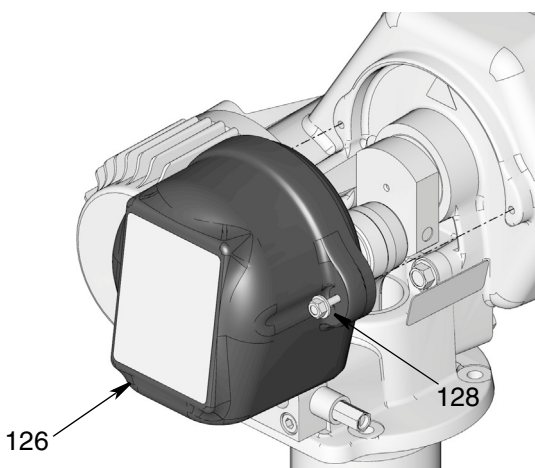

FIG. 50
28. Reinstall cover (126) using bolts (128). Use a wrench to tighten bolts securely (FIG. 50).